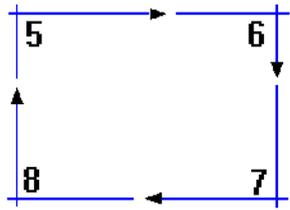

Figure 7-7
- 2 Teach the robot four positions arranged in a square as shown in Figure 7-7. Record these positions as #5, #6, #7, and #8.